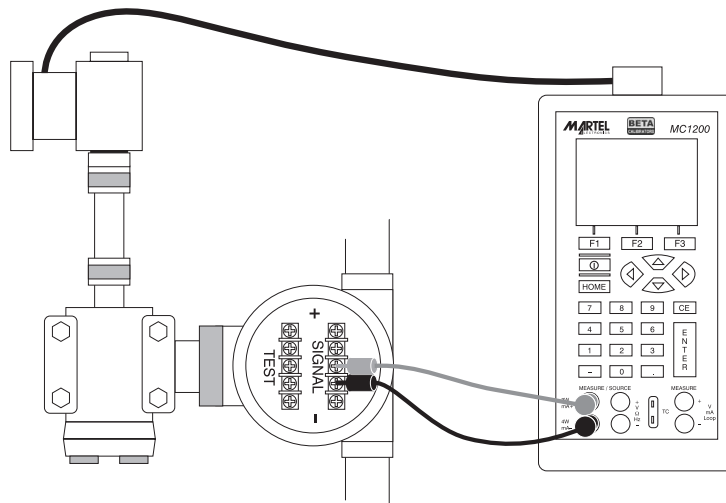

Figure 20. Calibrating an I/P Device
3. Connect the calibrator to the device as shown in Figure 20. The calibrator will simulate the transmitter current and measure the output pressure.